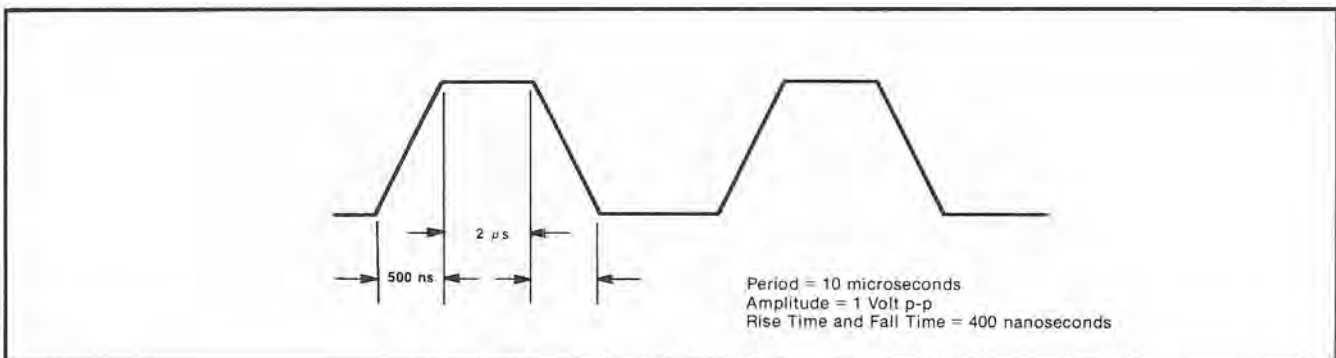

Figure 4-16. Rise and Fall Time A Test Waveform
- c. Using the HP 1743A oscilloscope Delta Time function, set HP 8082A to output a pulse as shown in Figure 4-16. Verify that the 5335A displays 400 ns \pm 82 ns.